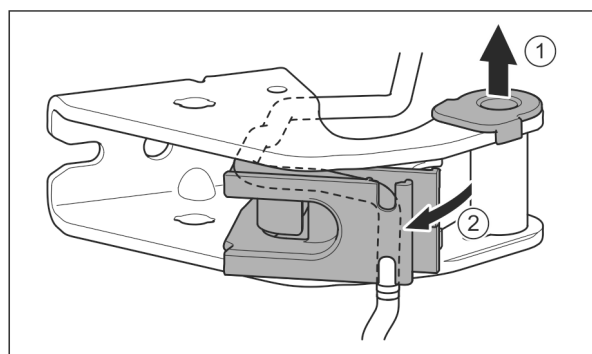

Fig. 29
- ▶ Pull the bearing bush out of the guide. Fig. 29 (1)
- ▶ Swing the cable holder out. Fig. 29 (2)